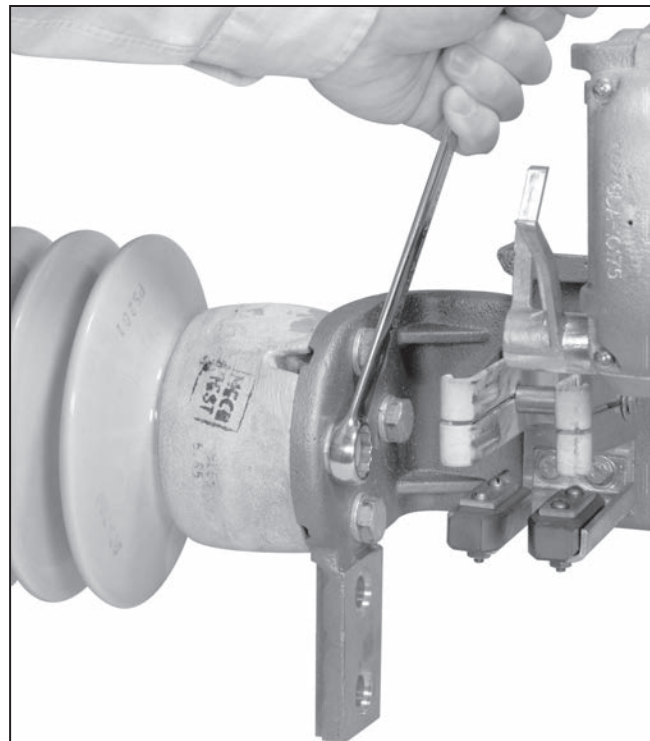

Figure 41. Adjust the position of the terminal base casting.
STEP 30. If adjustment is required, loosen the four $\frac{1}{2}$ -13 \times 1 $\frac{1}{2}$ -inch hex head galvanized steel cap screws that fasten the terminal base castings to the stationary insulators. See Figure 41. Shift the terminal base castings as required. Tighten the cap screws and recheck for conformance to the conditions outlined above. Readjust if required. Make certain the cap screws are tightened to final tightness, 55 ft-lbs. (75 Nm).